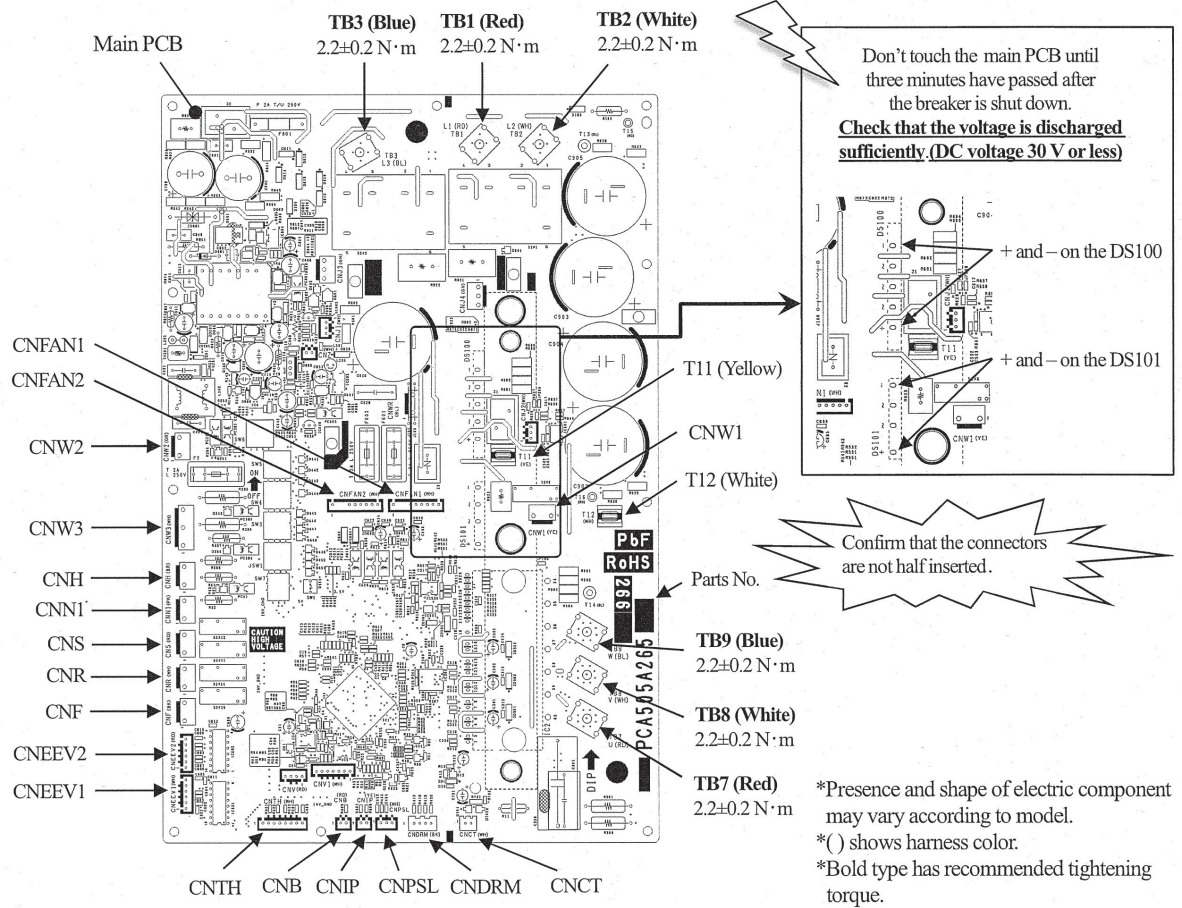

Fig.2 Parts arrangement view of main PCB and voltage measurement points
In the situation that harnesses are connected to main PCB, **be sure to measure voltage (DC)** on main PCB, and **check that the voltage is discharged sufficiently (DC voltage 30 V or less)**. (Refer to Fig.2)
- c) Disconnect the connectors, faston terminals and round terminals from the main PCB as shown in Fig.2.
- b) After the new Main PCB is installed on the control, reconnect the connectors, fasten terminals, and round terminals to the main PCB as before. (Refer to Fig.2)